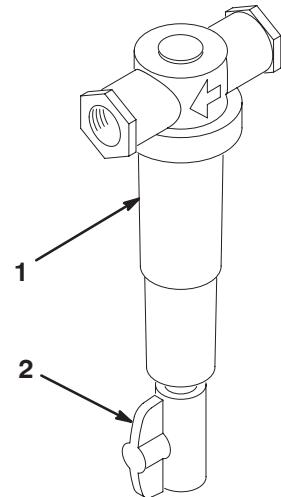

Figure 12
7. If desired, the valve on the pre-filter (Fig. 12) may be opened slightly (cracked) to provide continuous flushing during operation of the machine.